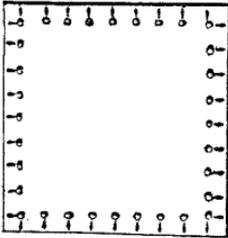

Fig. 1.
*Tente d'abri.*—The French “*tente d'abri*” has not, so far as I know, been adopted by travellers: it seems hardly suitable, except for soldiers. Each man carries a square of canvas (fig. 1), with buttons and button-holes all round it, by which it can be doubly attached to other similar squares of canvas, and thus, from several separate pieces, one large cloth can be made. The square carried by the French soldier measures